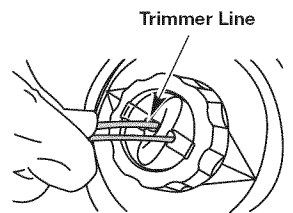

Fig. 20
3. Push both ends of the line through the holes in the bump knob until they protrude through both eyelets. Pull the line until approximately 5 ft. (1.5 m) of line extends from each side. (Fig. 20)